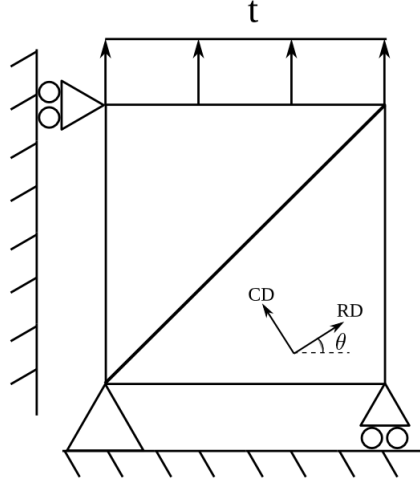

Figure 3: Simple mesh for uniaxial tension with traction t .
- Use force controlled loading of a simple structure (Figure 3) to obtain the uniaxial response (loading and unloading) of the material loaded in RD and CD.